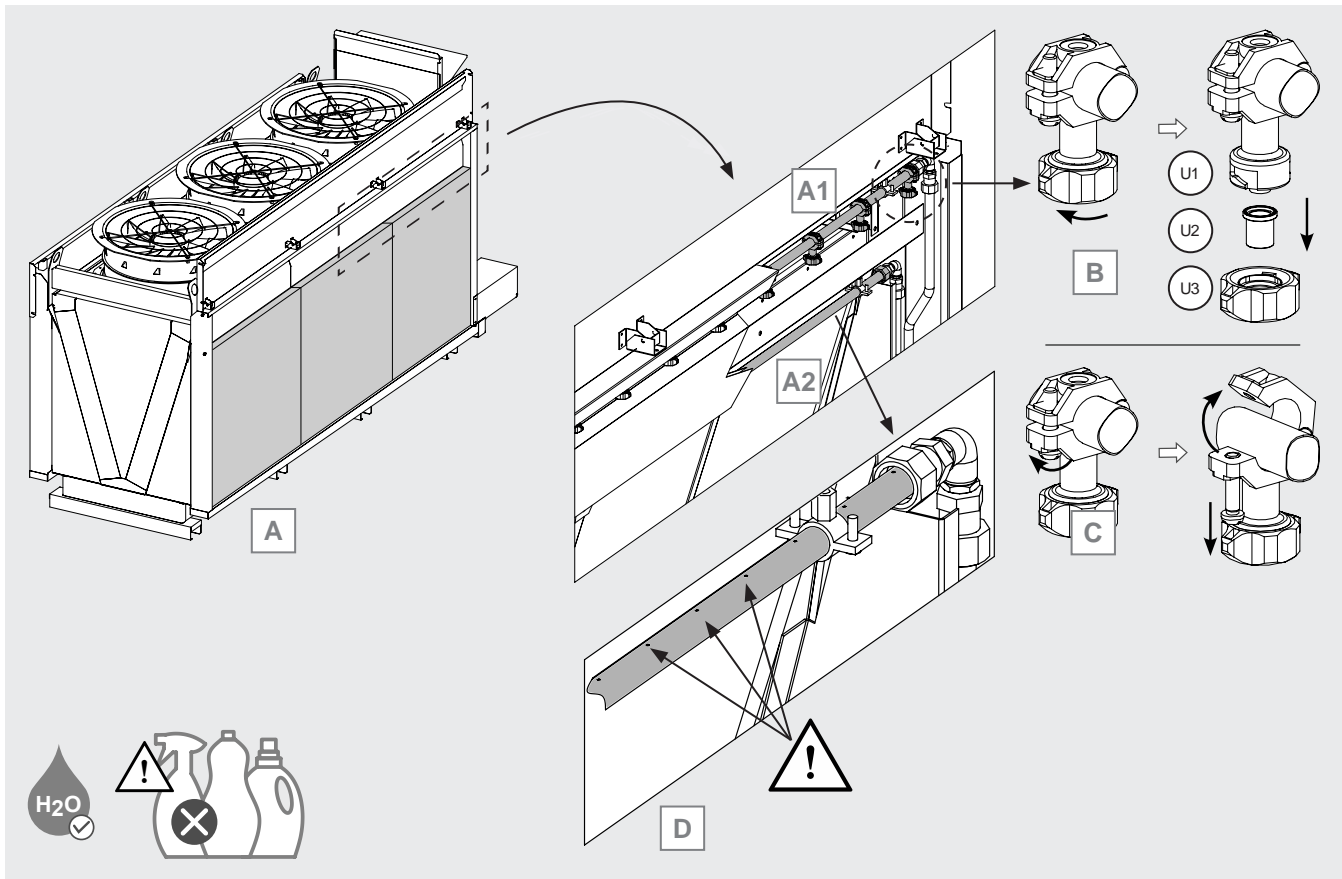

Figure 26
- 12.12.5 Locate the water distribution lines of the adiabatic system. Observe Figure 26 A: line (A1), by means of a row of nozzles, distributes water to the outer panel. Line (A2), by means of a perforated pipe, distributes water to the inner panel.
- 12.12.6 Observe Figure 26 B. Each nozzle in line (A1) consists of three parts: no. 1 nozzle body (U1), no. 1 nozzle (U2) which determines the type of jet and water flow rate, no. 1 nut (U3) which holds the nozzle in place.
- 12.12.7 See Figure 26 B. In the case of clogged nozzles, it is possible to replace the nozzle without changing the whole nozzle: unscrew the nut and remove the nozzle. There are 3 types of nozzles corresponding to 3 different performances: each is marked by a colour, lilac, black and orange. Replace the nozzles with new ones of the same brand and colour. If in doubt, contact Modine.
- 12.12.8 Observe Figure 26 C. In the case of damaged nozzles, unscrew the screw and open the quick coupling. Remove the nozzle. If the nozzle is damaged, replace it completely, including the nozzle.
12.12.10 Observe Figure 26 D. Check that all holes in the distribution pipe (A2) are perfectly clear. Remove any lime residue with a damp cloth. Do not use detergents or aggressive substances.